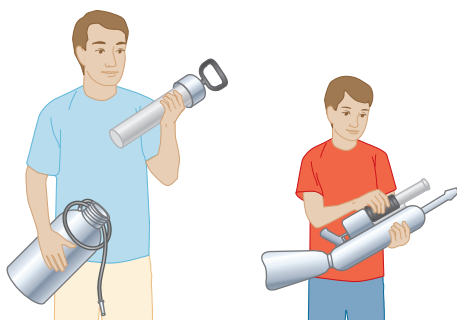

Figure P19.28
28. Your father and your younger brother are confronted with the same puzzle. Your father's garden sprayer and your brother's water cannon both have tanks with a capacity of 5.00 L (Fig. P19.28). Your father puts a negligible amount of concentrated fertilizer into his tank. They both pour in 4.00 L of water and seal up their tanks, so the tanks also contain air at atmospheric pressure. Next, each uses a hand-operated pump to inject more air until the absolute pressure in the tank reaches 2.40 atm. Now each uses his device to spray out water—not air—until the stream becomes feeble, which it does when the pressure in the tank reaches 1.20 atm. To accomplish spraying out all the water, each finds he must pump up the tank three times. Here is the puzzle: most of the water sprays out after the second pumping. The first and the third pumping-up processes seem just as difficult as the second but result in a much smaller amount of water coming out. Account for this phenomenon.